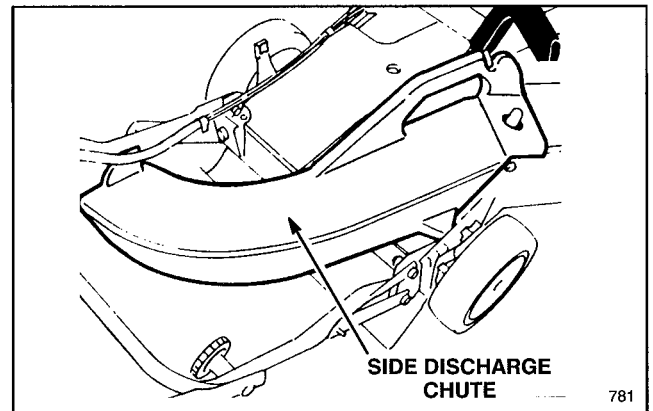

Figure 32
2. Side Discharge Kit, Model 59168—(requires Rear Bagging Kit, Model 59174). Installs in seconds. Rear mounted in place of grass bag or discharge tunnel plug. Disperses clippings while trimming on both sides (Fig. 32).